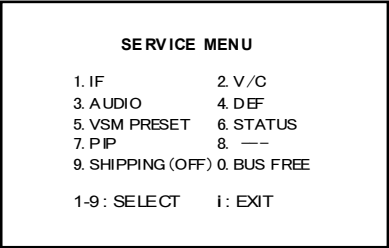
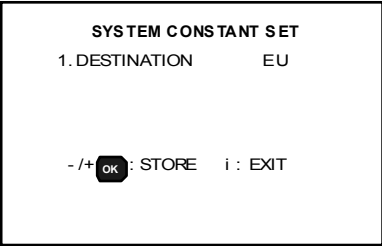

Fig.1
Fig.2
(1) Power off Switch the power off and unplug the power cord from the outlet.
(2) Replace ICs. Be sure to use memory ICs written with the initial data values.
(3) Power on Plug the power cord into the outlet and switch the power on.
(4) Check and set SYSTEM CONSTANT SET : * It must not adjust without signal. 1) Press the INFORMATION key and the MUTING key of the REMOTE CONTROL UNIT simultaneously. 2) The SERVICE MENU screen of Fig. 1 will be displayed. 3) While the SERVICE MENU is displayed, press the INFORMATION key and MUTING key simultaneously, and the SYSTEM CONSTANT SET screen of Fig. 2 will be displayed. 4) Check the setting values of the SYSTEM CONSTANT SET of Table 1. If the value is different, select the setting item with the FUNCTION UP/DOWN key, and set the correct value with the FUNCTION +/- key. 5) Press the MENU key to memorize the setting value. 6) Press the INFORMATION key twice, and return to the normal screen.
(5) Setting of receive channels Set the receive channel. For setting, refer to the OPERATING INSTRUCTIONS.
(6) User settings Check the user setting values of Table 2, and if setting value is different, set the correct value. For setting, refer to the OPERATING INSTRUCTIONS.
(7) Setting of SERVICE MENU Verify the setting items of the SERVICE MENU of Table 3, and reset where necessary. For setting, refer to the SERVICE ADJUSTMENTS.